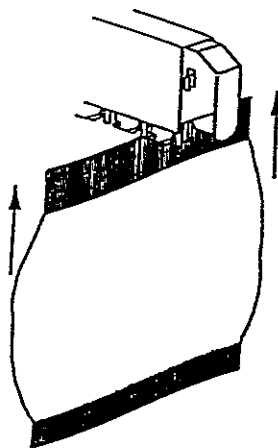

FIGURE 2
2. Each bag is inserted into a wedge assembly as shown in Figure 2. This can be done many ways; however, there is a best way which consists of inserting the bag into the wedge at an angle and sliding the bag up until centered in the wedge. **DO NOT ATTEMPT TO LOAD LAST POSITION ON EACH CHAIN.** Release product by pressing the white lever up behind the bag on the wedge assembly (See figure 2 below).